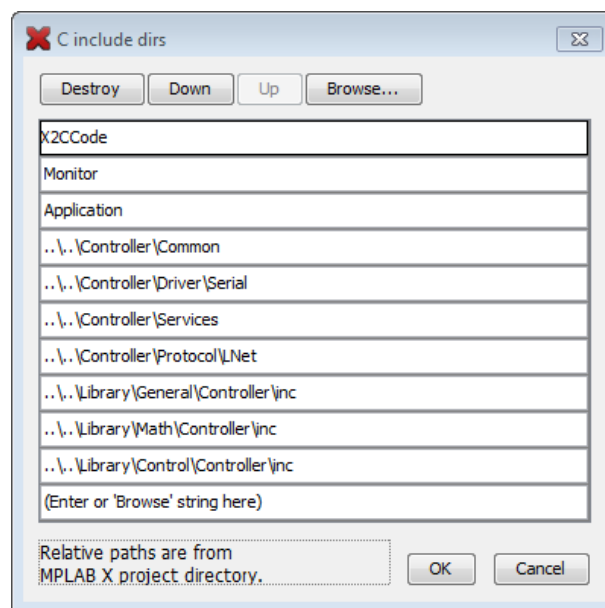

Figure 28: Default path variables for the include files
3. In the case the demo application is copied/moved to a different location, the include paths have to be adapted. To ensure the compiler uses the correct path variables right click on the **Projectname** → **Properties** → **XC16 Global Options** → **xc16-gcc**. In the drop down menu **Option categories** choose **Preprocessing and messages**. Click on the dots beside *C include dirs*. There are relative paths to the needed include files listed as seen in Figure 28. Correct the links by double clicking on the path variables.